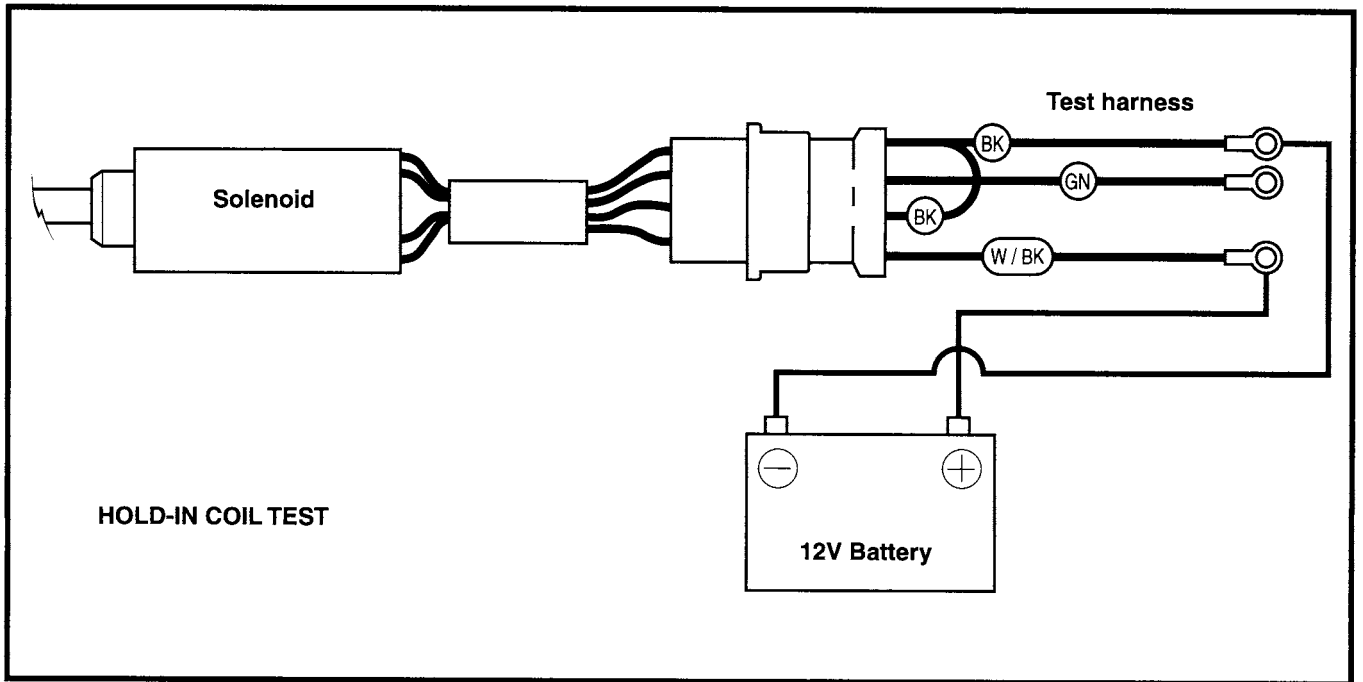

Figure 25. Hold-in Coil Test Hookup
1. See Figure 25. Connect a 12-volt battery to the solenoid test harness as shown.